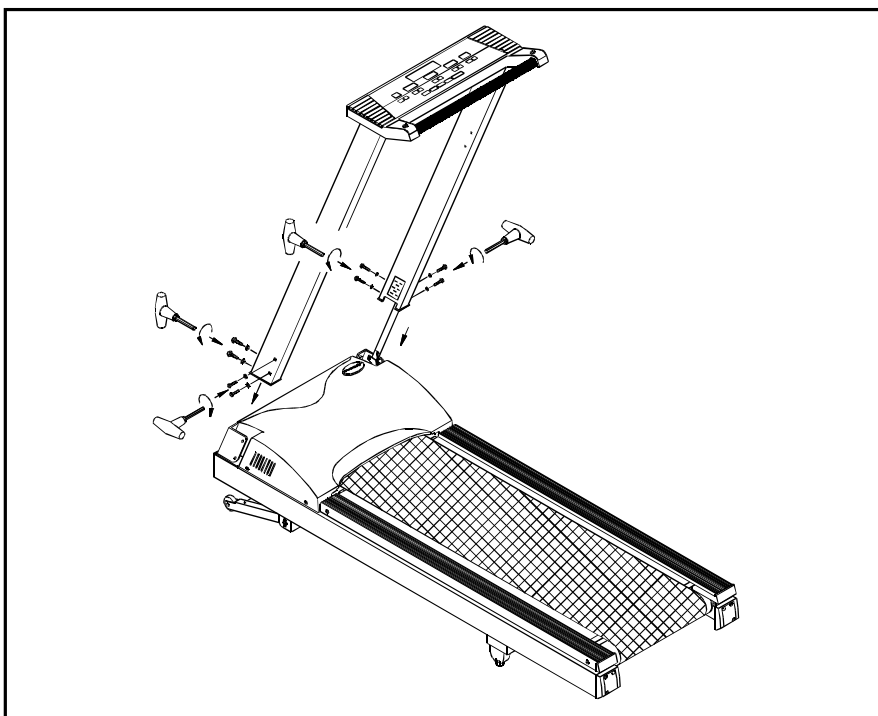

FIG.2
2. Insert the two front posts into their respective sockets and secure with four bolts and washers provided on each side.(see Fig. 2).